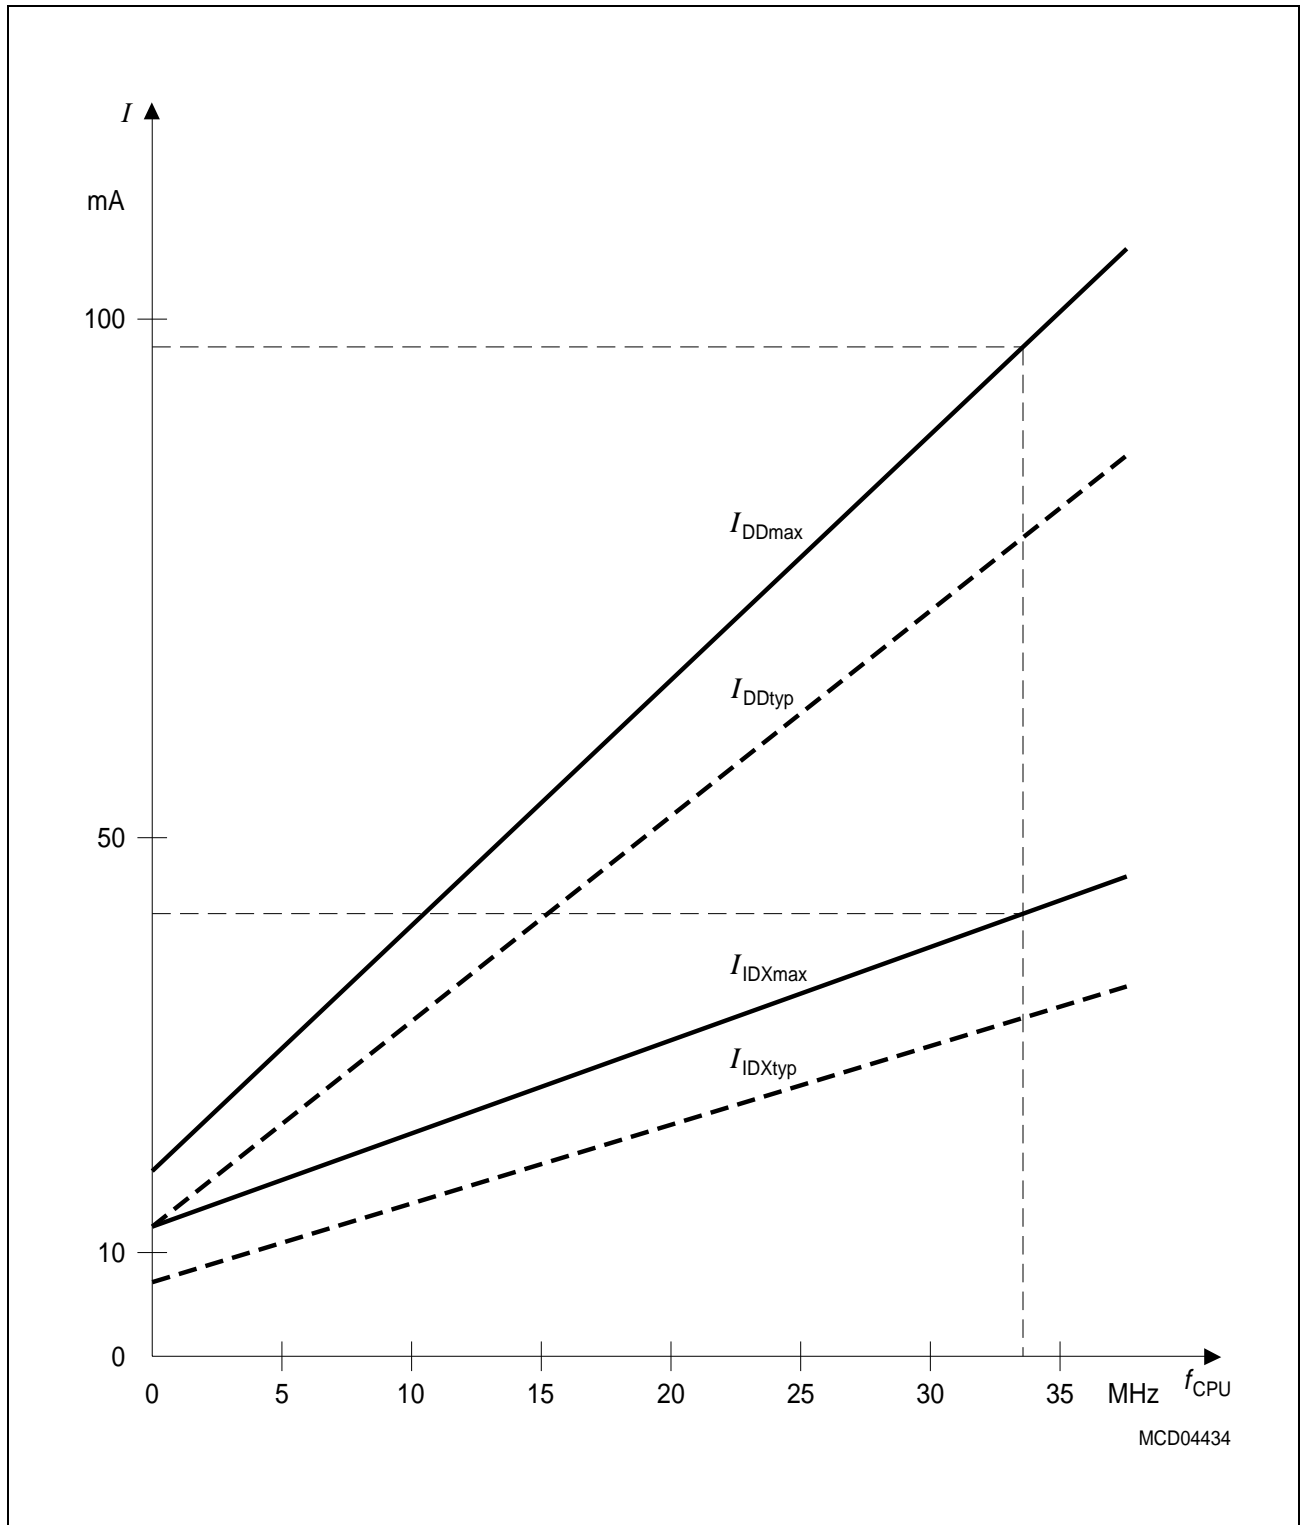

Figure 10 Supply/Idle Current as a Function of Operating Frequency
- 1) The supply current is a function of the operating frequency. This dependency is illustrated in Figure 10. These parameters are tested at V_{DDmax} and maximum CPU clock with all outputs disconnected and all inputs at V_{IL} or V_{IH} .